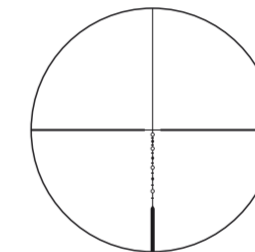

Fig. 3
- 1 Look through the eyepiece with your eye positioned about 4 in (10 cm) away from the eyepiece to see the BDC 800 reticle (Fig. 3).